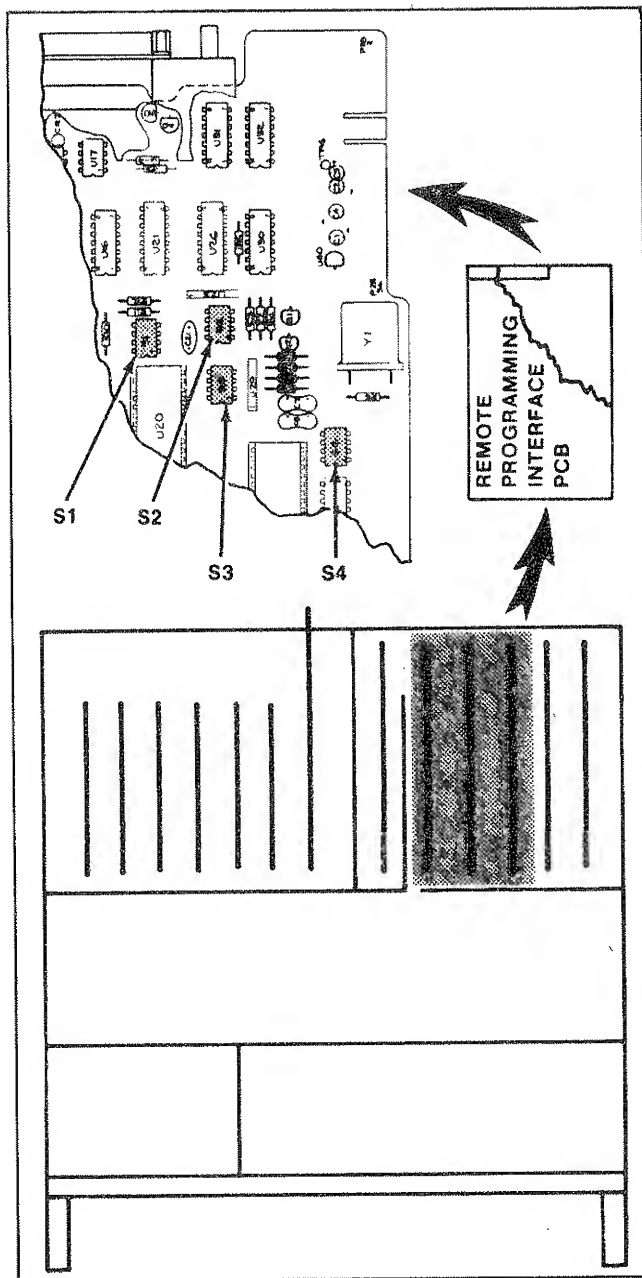

Figure 617-2. Remote Programming Interface PCB,
any one of the data logger I/O slots shown in Figure 617-2. Use the following procedure to install the pcb:
3. Locate S3 on the pcb as shown in Figure 617-2. This switch is used to establish the format of transmitted data.
5. Locate S4 on the pcb as shown in Figure 617-2. This switch is used to establish the baud rate of both transmitted and received data.
7. Locate S2 on the pcb as shown in Figure 617-2. S2 is used to assign a unique address code to the pcb. This code allows the pcb to ignore all command (data) strings that are not preceded by the code.
9. Locate S1 on the pcb as shown in Figure 617-2.